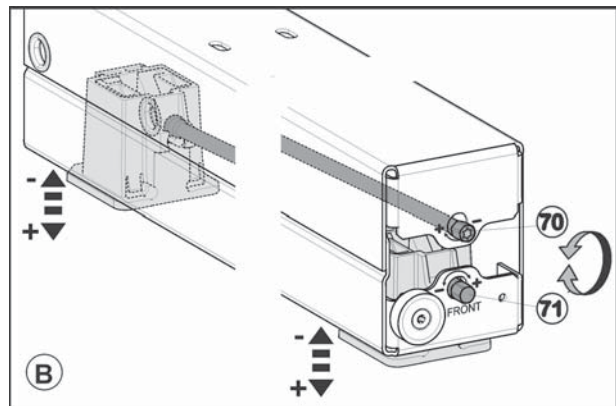

Fig. 45
- ▶ Align the height of both appliances evenly using the four roller bases. Use the upper adjustment setting (1/4") Fig. 45 (70) for the rear adjustment foot and the lower adjustment setting (1/4") Fig. 45 (71) for the front adjustment foot. Turn clockwise to raise and counter-clockwise to lower. Maximum adjustable height: 5/8 in (16 mm).